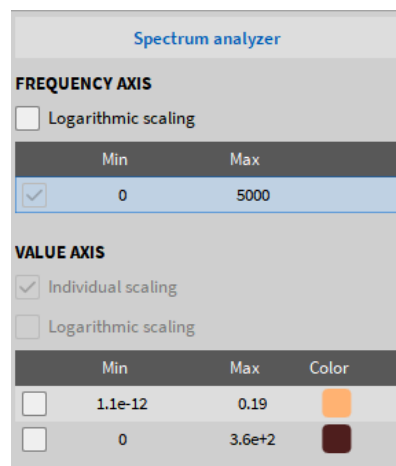

Figure 6-29: Instrument Properties of the Spectrum Analyzer if Frequency Domain channels are assigned
- If frequency domain channels are assigned to the Spectrum Analyzer, the Instrument Properties are reduced to the Frequency axis and Value Axis settings (see Figure 6-29). For details, please refer to section 6.12.3.4.